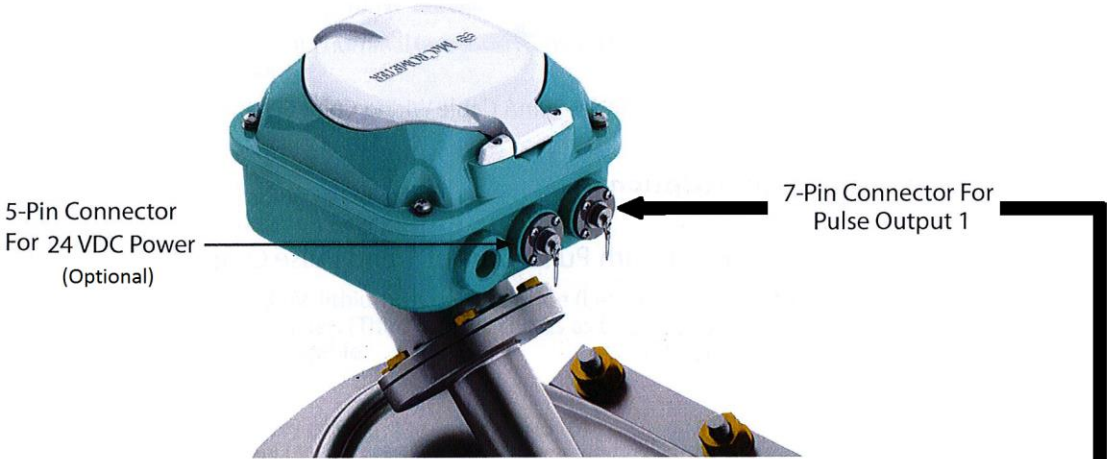

Figure 15: External Connectors
- 2. a 7-pin connector for pulse output 1 See Figure 15.